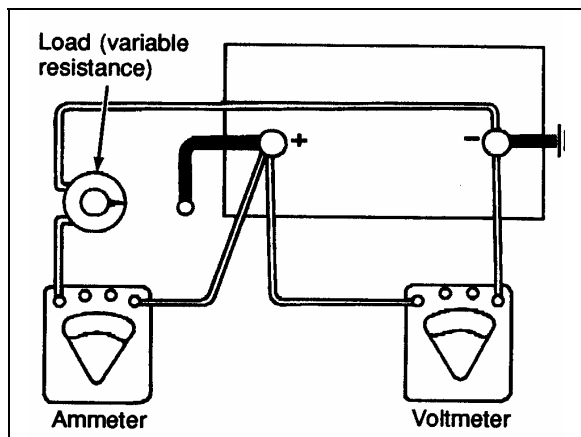

FIGURE 16: LOAD TEST
1. Connect a voltmeter, ammeter, and a variable load resistance as illustrated in figure 16.